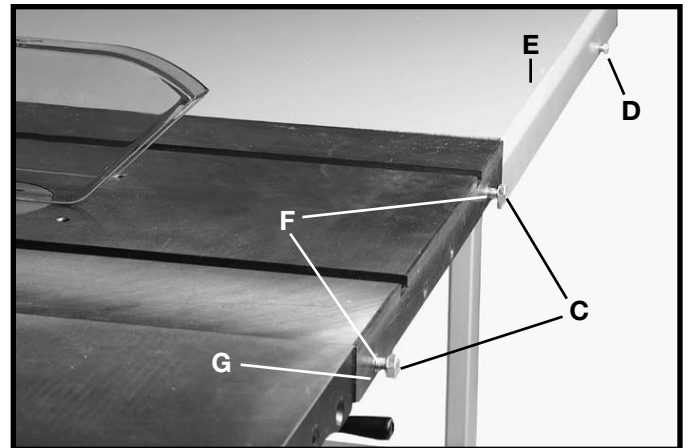

Fig. 60
2. Insert two 3/8-24 x 1" hex head bolts, flat washers and hex nuts (C) Fig. 60 into the two holes (F) Fig. 60 in the front of saw table (G). Screw bolts into nuts slightly leaving bolt head extended approximately 1/2". **Note:** Make sure to use only the two holes shown at (F) and that washers are on the nut side of the bolt.
3. Insert one 1/4-20 x 3/4" hex head bolt, flat washer and hex nut (D) Fig. 60, into the front support of the extension table (E) Fig. 60. Screw bolt into nut slightly leaving bolt head extended approximately 1/4". Make sure washer is on the nut side of the bolt.